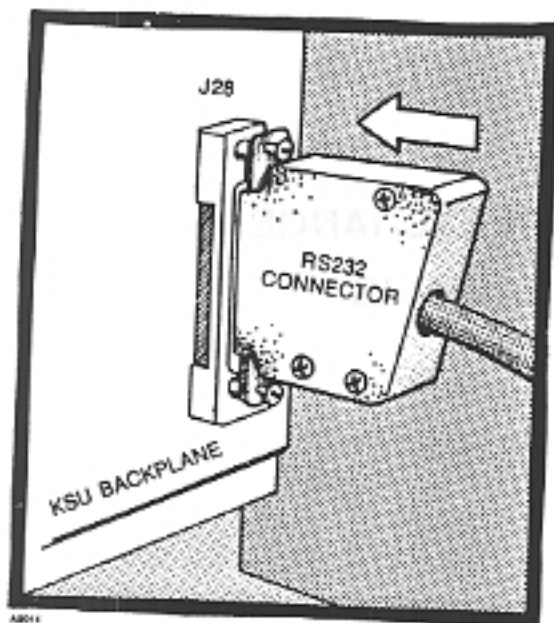

Figure 6-1 RS-232C CONNECTOR, KSU, TCX-128
- Plug any keyboard with CRT or printer having RS-232C interface with ASCII format into the J28 connector on the Key Service Unit (KSU) backplane (Figure 6-1).